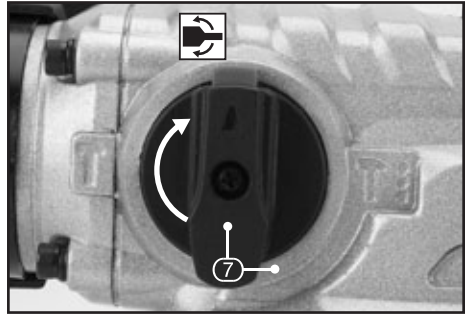

FIG.10
– FIGS.10 – 11
- Rotate the drilling/chiselling selector (7) to the rotational chiselling setting.
- Switch the rotary/hammer selector (5) to the drill and hammer setting.